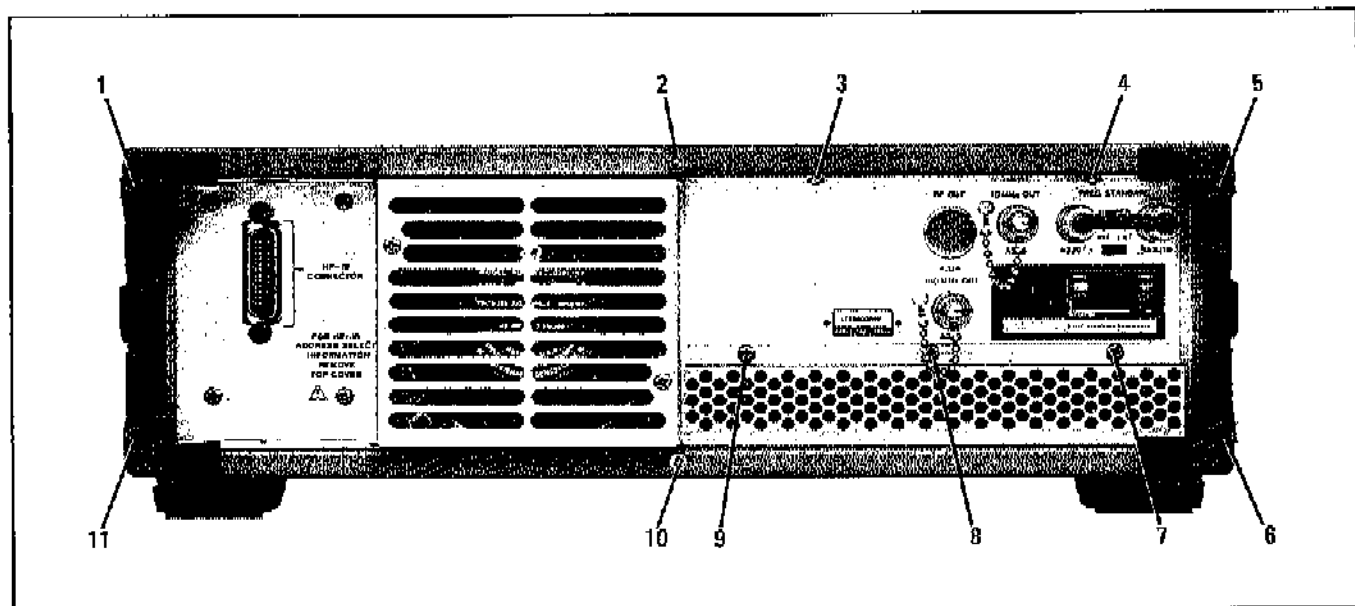

Figure 8-2. Rear Panel of the Synthesizer
- a. Remove the two plastic feet from the rear of the top cover by removing the Pozidriv screw from each foot (see Figure 8-2).
- b. Unscrew the Pozidriv screw at the middle of the rear edge of the top cover (see Figure 8-2). This is a captive screw and will cause the top cover to pull away from the front frame. Captive screw part number HP 0560-1171; clip part number HP 0510-0043.
b. Remove the two plastic feet from the rear of the bottom cover by removing the Pozidriv screw from each foot (see Figure 8-2).
c. Unscrew the Pozidriv screw at the middle of the rear edge of the bottom cover (see Figure 8-2). This is a captive screw and will cause the front edge of the bottom cover to pull away from the front frame. Captive screw part number is HP 0570-1171; clip part number is HP 0510-0043.
b. Remove the two Pozidriv screws from the top of the rear frame and the three screws from over the heat sink (see Figure 8-2).